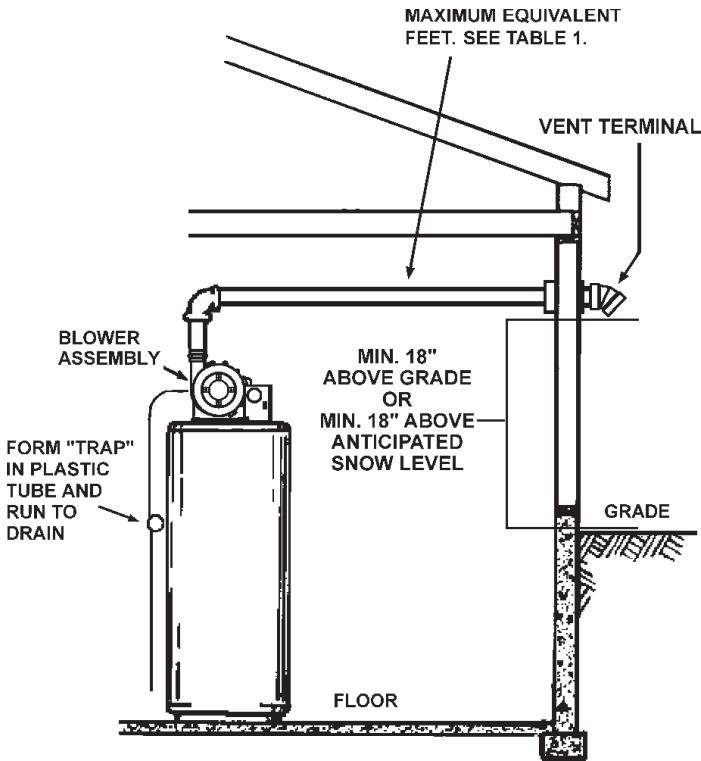
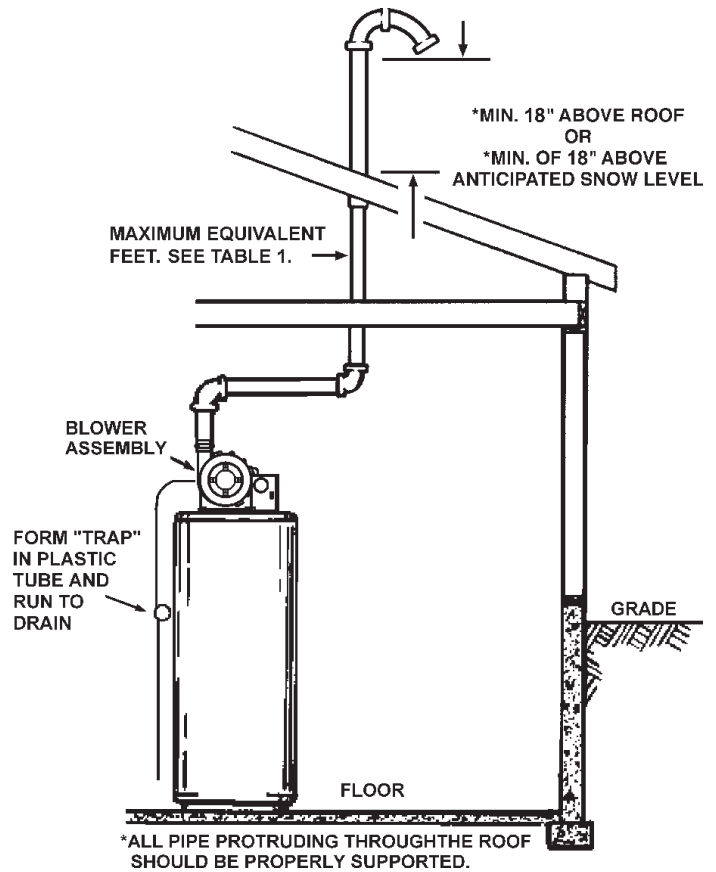

FIGURE 8
FIGURE 9
The first step is to determine where the vent pipe will terminate. See Figures 3, 8 and 9. The vent may terminate through a sidewall as shown in Figure 8 or through the roof as shown in Figure 9.
1. Vent Termination must extend a minimum of 18 inches above roof or 18 inches above the anticipated snow level to prevent blockage of the vent termination, as shown in Figures 8 and 9.
2. The venting system shall terminate at least four (4) feet from or one (1) foot above any gable, dormer or other roof structure with building interior access; i.e., vent, window, etc.
3. The venting system shall terminate three (3) feet above any forced air inlet located within ten feet.